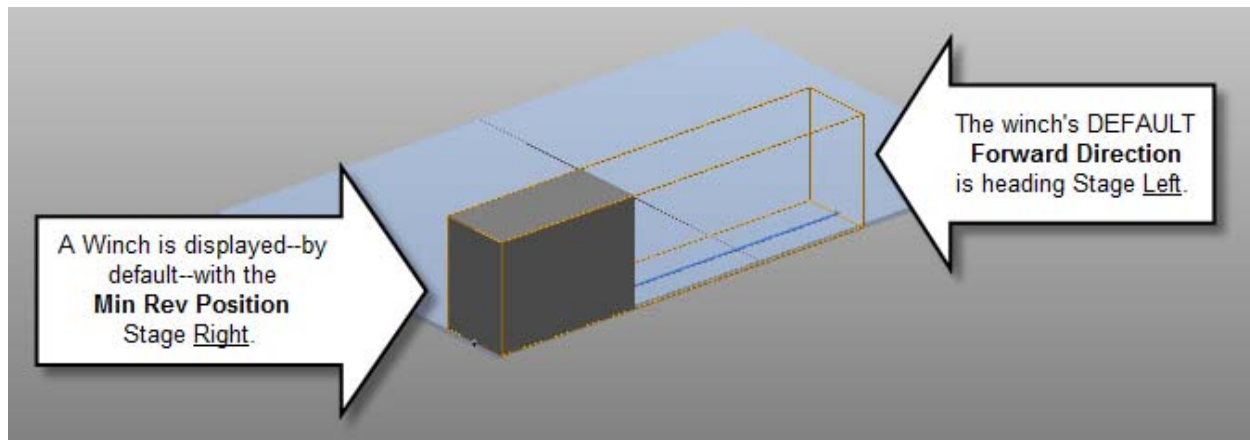
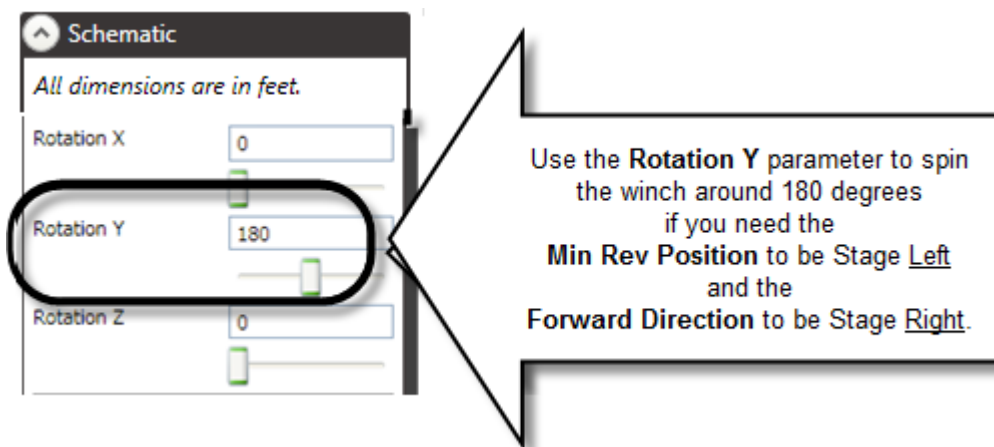
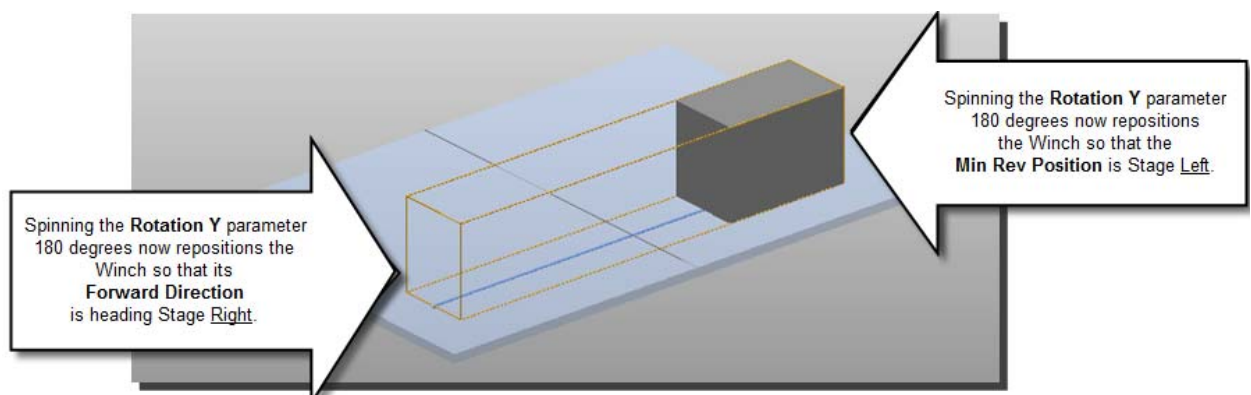

Figure 271
Figure 272
Figure 273
**NOTE:** By default, a winch is displayed with its minimum reverse position **Stage Right** [the Min Rev Position is set in the Position section of the Stagehand Editing Pane] and its forward direction heading **Stage Left**. You can use the Rotation Y parameter [in the Schematic section of the Stagehand Editing Pane] to spin the winch around and reposition it if you need the Min Rev Position to be **Stage Left** and its forward directing heading **Stage Right**. (See Figure 271, Figure 272 and Figure 273).